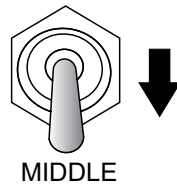

Figure 68. Parallel Signal Switch (Middle)
- For the inner most generators place the parallel signal switch (Figure 68) in the **MIDDLE** position.